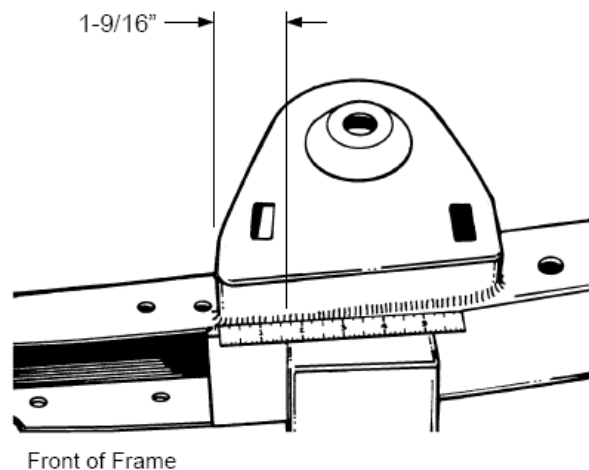

Figure 7- Spring Tower Install
10. Next are the spring towers. They sit on top of the frame rails, and are located as shown in **Figure 7**, (1-9/16" forward of the crossmember measuring from the front of the crossmember to the front of the spring tower). Clamp in place, double check your dimensions, then weld all around, including the gusset flanges on the sides of the rails. For added strength, you can also weld the inside of the gusset flanges